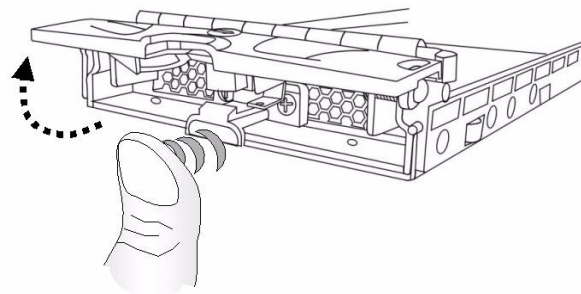

Fig. 3.4 Opening Drive Tray Front Flap
2. Open the front flap on the drive tray. (See *Figure 3.4*). To open the flap, push the release button on the front bezel. The front flap will open in an upward direction.